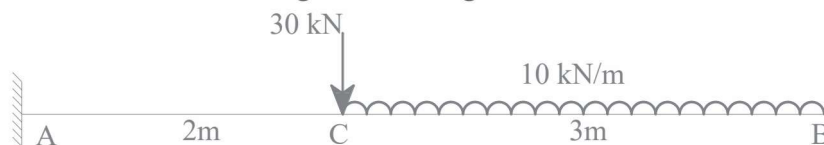

Figure-3
| (c) Determine the support reactions for the beam shown in Figure-3 . Also plot the shear force and bending moment diagrams. | 07 |
- (c) Calculate the maximum bending stress and maximum shear stress at a section for the beam shown in **Figure-3**. Beam cross section is 300mm × 500mm deep. 07